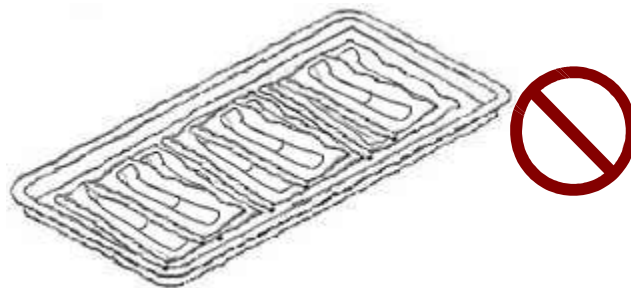

Figure 41
- Never stack pouches because over lapping surfaces and areas cannot be exposed to the steam and will not be sterilized. See Figure 41.